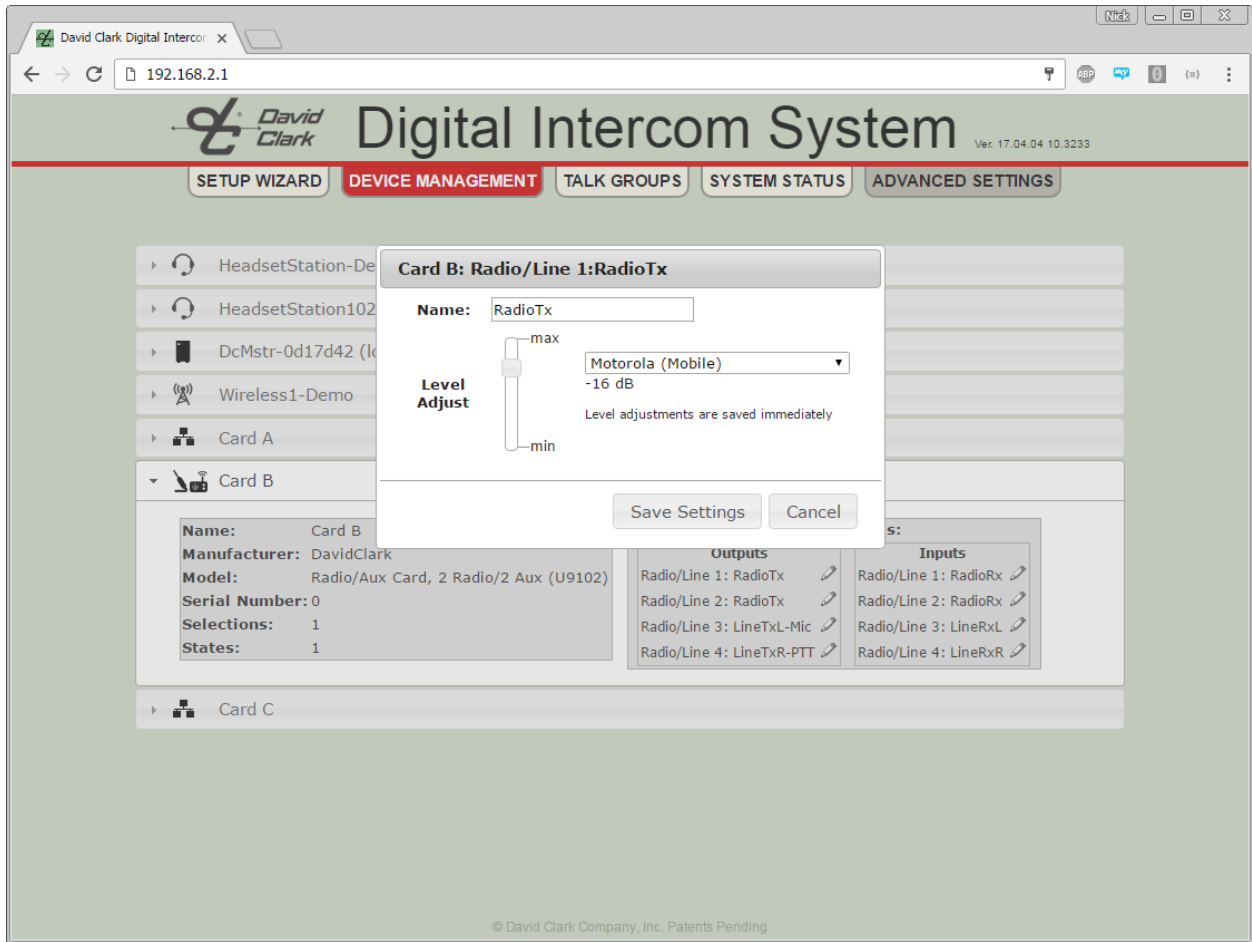

Figure 8.7
4. A Radio Card or Radio/Aux Card can have its channels renamed and levels adjusted. Audio level adjustments should not be made now. Instead, make these adjustments after talk group setup is complete. See **Figure 8.7**
- Audio levels - See **Figure 8.7.**